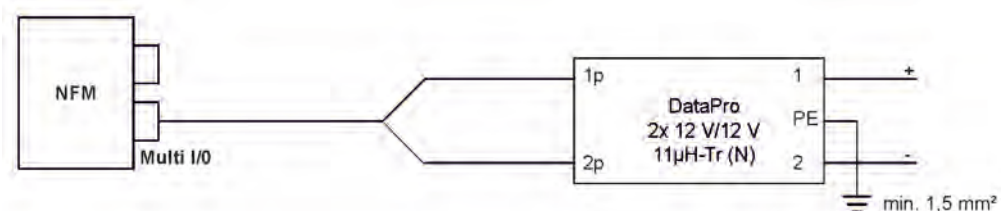

Fig. 25-6 General overvoltage protection for DC power supply
For **direct external power supply** using 12 V DC (e.g. solar power) the type DataPro 2x1 12V/12V-11 μ H-Tr(N) for non-Ex (Fig. 25-6) is recommended.